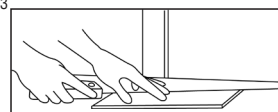

Figure 4
• Undercut door casings and jambs. Remove any existing base, shoe molding or doorway thresholds. These items can be replaced after installation. All door casings and jambs should be undercut to avoid difficult scribe cuts (Figure 4).